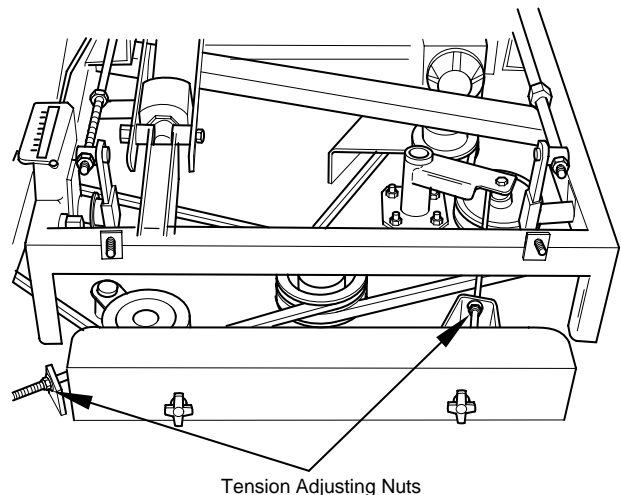

Figure 6-6 Blade Belt Tension Adjustments (Mag-72 Deck Shown)
- Each belt has an adjustment rod attached to its belt idler arm. To adjust the belt tension, turn the adjusting nut (Figure 6-6) until 1/2 inch deflection in the belt is obtained with 10 pounds of pressure. See Cutter Deck Belts, section 7-10 for checking method.